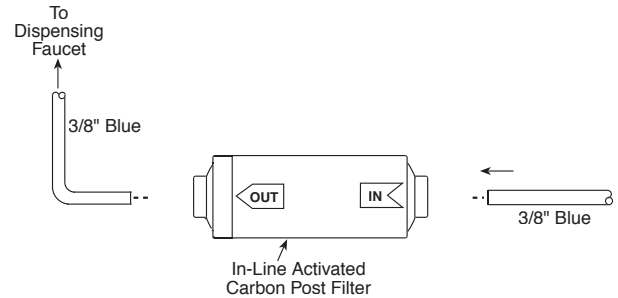

Figure 5
4. Firmly reconnect the polytubes to the new Post Filter. (Refer to Fig. 5) Make sure the tubing is pressed all the way in to create a pressure tight connection.